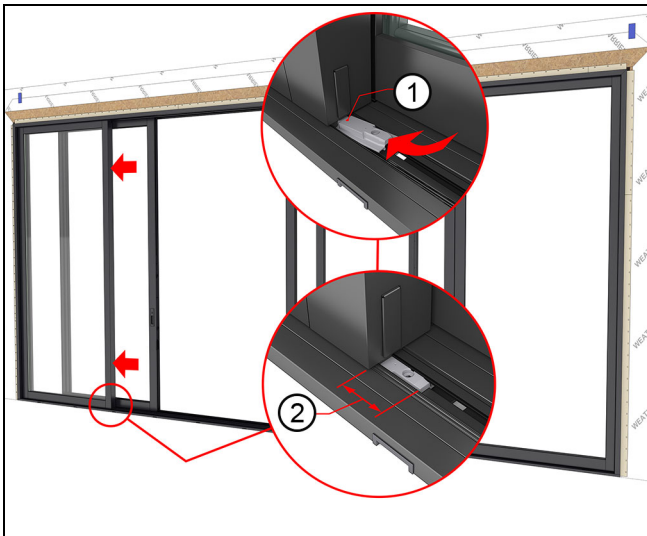

Figure 142
13. Snap the lower stationary bracket onto sill, then slide underneath the (C-L) stationary panel until fully seated. The bracket should stick out approximately 2 1/4" (57) from panel when fully seated. Do not fasten the bracket until all the panels are installed and adjusted. See Figure 142.